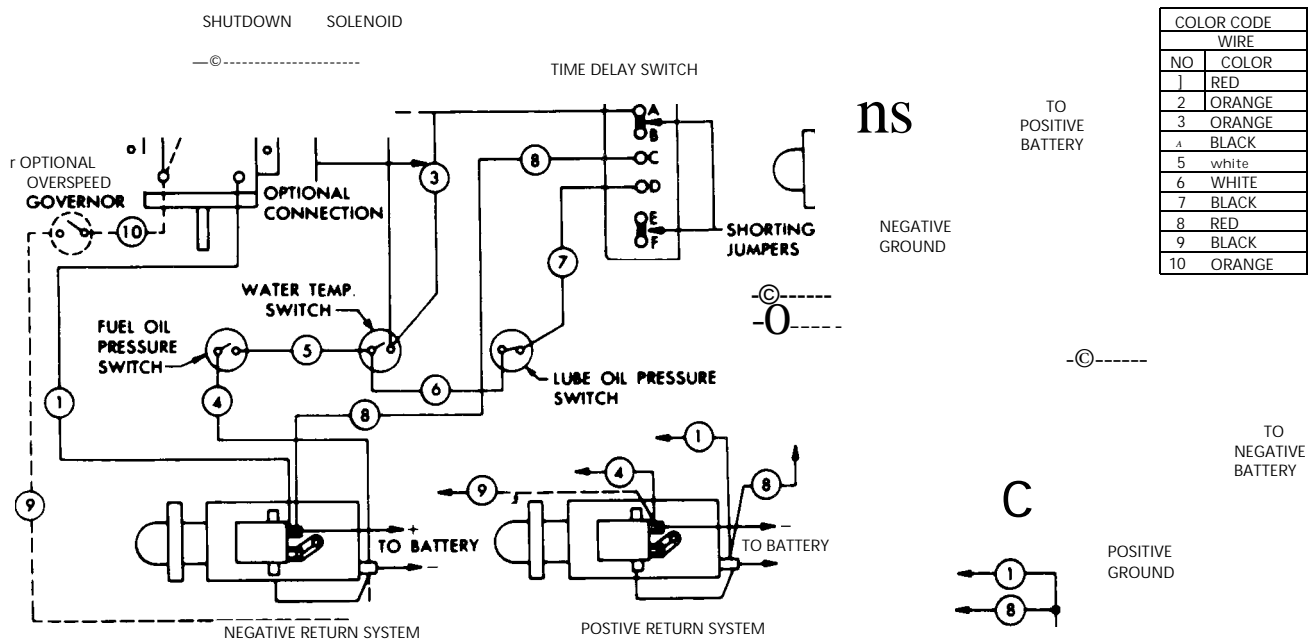

Fig. 2 - Typical Automatic Electrical Shutdown System Diagram
The automatic electrical shutdown system shown in Fig. 2 protects the engine against a loss of coolant, overheating of the coolant, loss of oil pressure or overspeeding. In the event one of the foregoing conditions arises, a switch will close the electrical circuit and energize the solenoid switch, causing the shutdown solenoid to release the air shutdown latch and stop the engine.
Some engines are equipped with an electrically operated automatic shutdown system which incorporates a solid state time delay switch (Fig. 2).
1. Refer to Fig. 2 and remove the time delay switch from the engine.